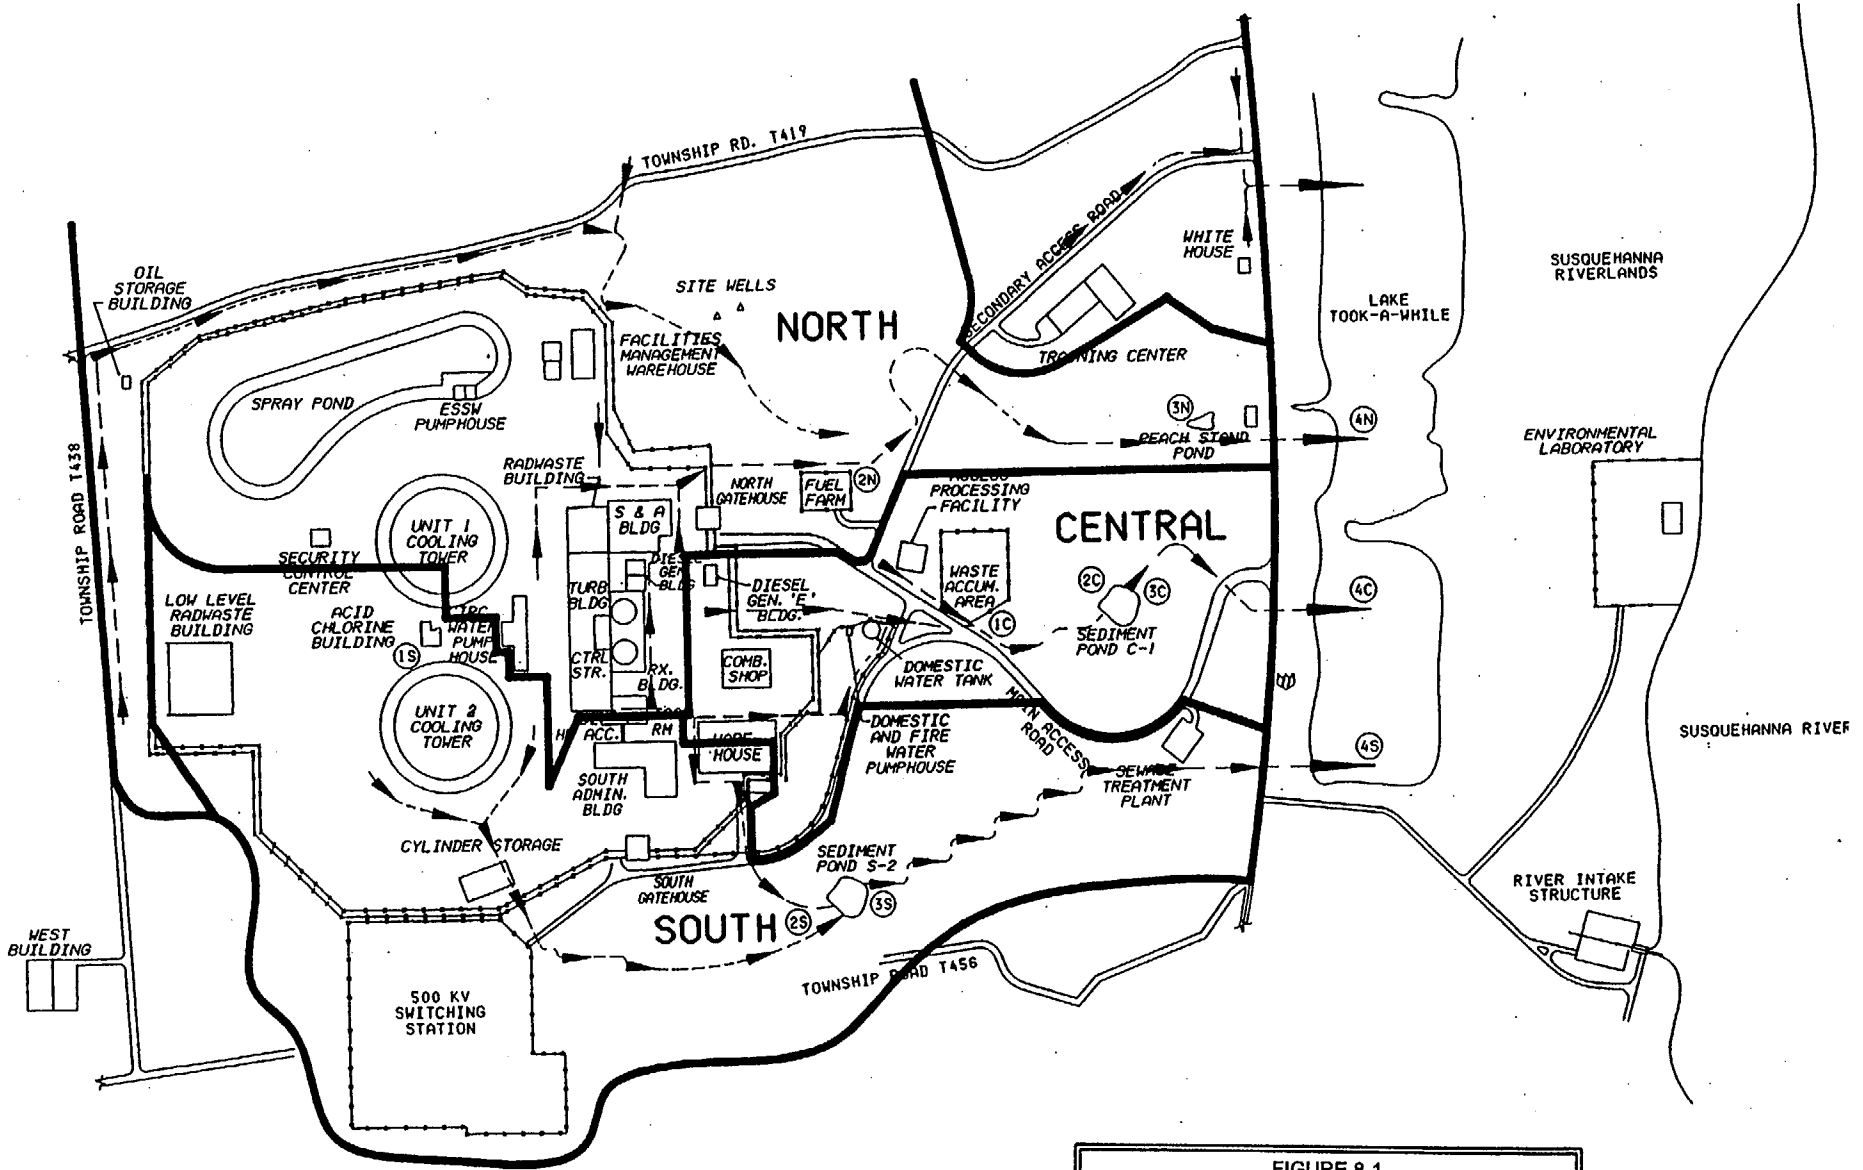

FIGURE 8-1
See Figure 8-1
**LIST OF CODES FOR FIGURE 8-1